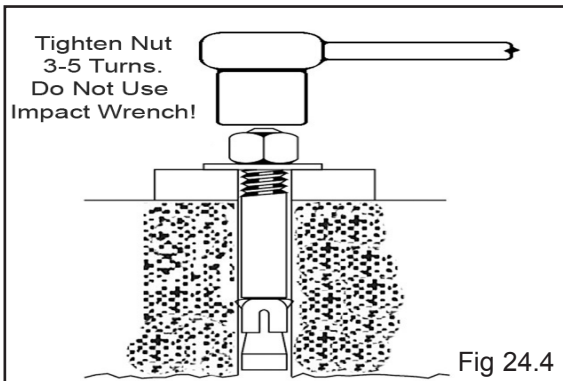

Fig 24.4
6. After any necessary shims are installed, tighten each nut 3-5 turns past hand tight. (See Fig. 24.4)